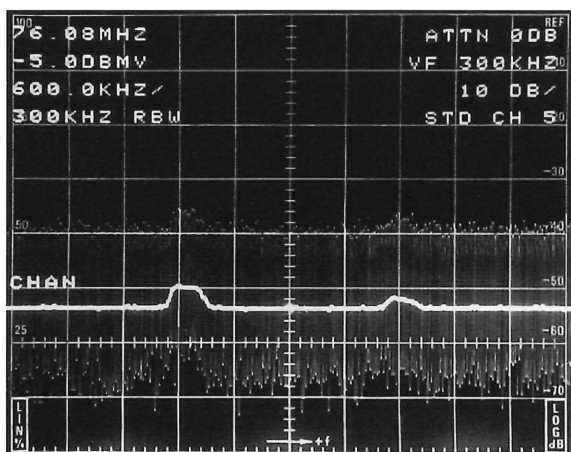

Figure 8. Effect of using ensemble averaging.
3. Use ensemble averaging (available in the 2714/2715 DISP menu). This is another post-detection technique which produces results similar to video filtering without reducing the bandwidth. Ensemble averaging finds the average value over a number of sweeps. Therefore, random signals, such as noise, tend to cancel out. Figure 8 shows the effect of using ensemble averaging.